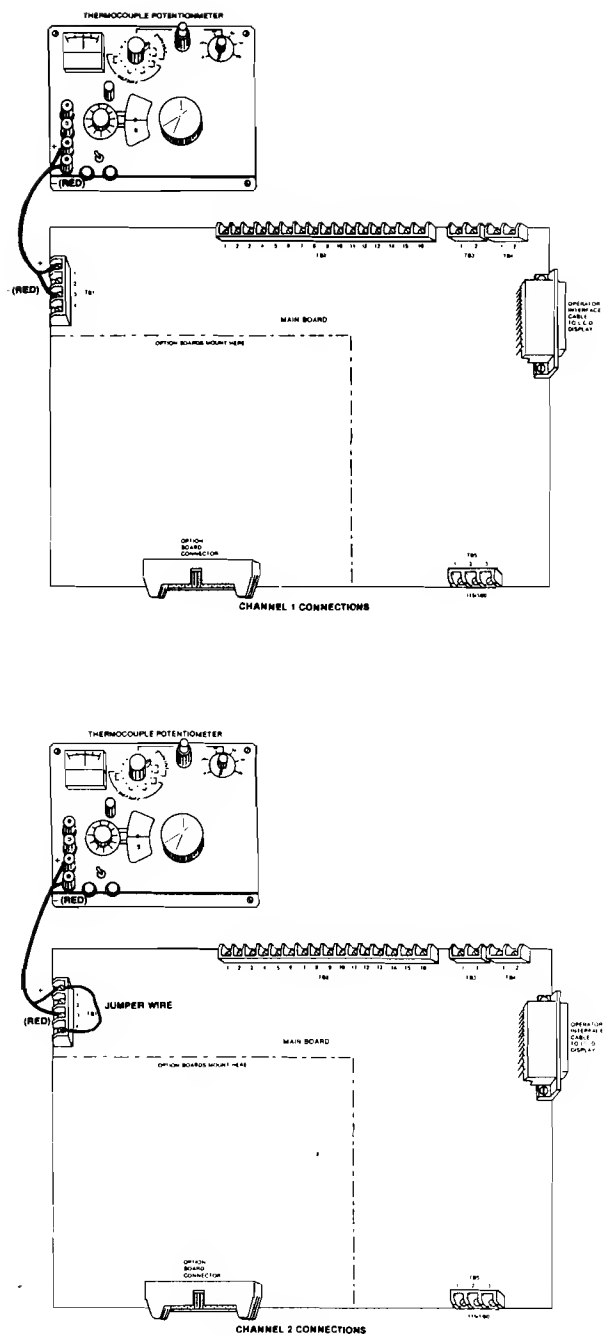

FIGURE 12
6. Connect a thermocouple potentiometer to both channel input terminals on the main board as shown in Figure 12.